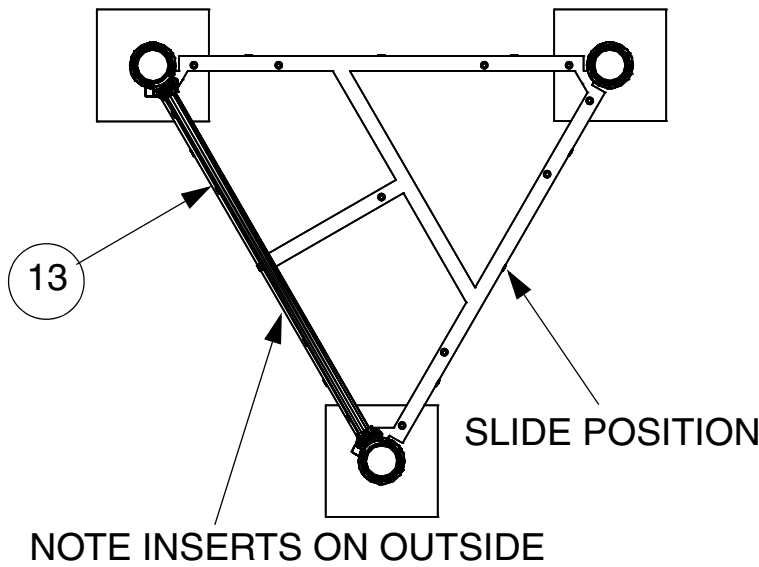

FIG.19
32) Attach in 1 place 1 off Panel Fixing Rail (item 13) to the Clamp Rings that are 800mm above the 1200 Deck fixings. Each end of the Panel Fixing Rail is held between a Bar Socket Top (item 49) and a Bar Socket Bottom (item 48) using 2 off BHCS Fixings (item 82) and should be fixed with the plastic panel fixing inserts on the outside of the structure. See FIG.19, 20 & FIG.C.